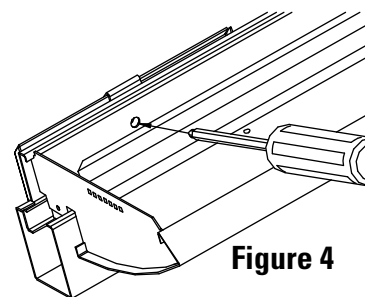

Figure 4
D. Secure fixture to the wall mounting plates using ¼-20 screws provided. (Fig. 4)